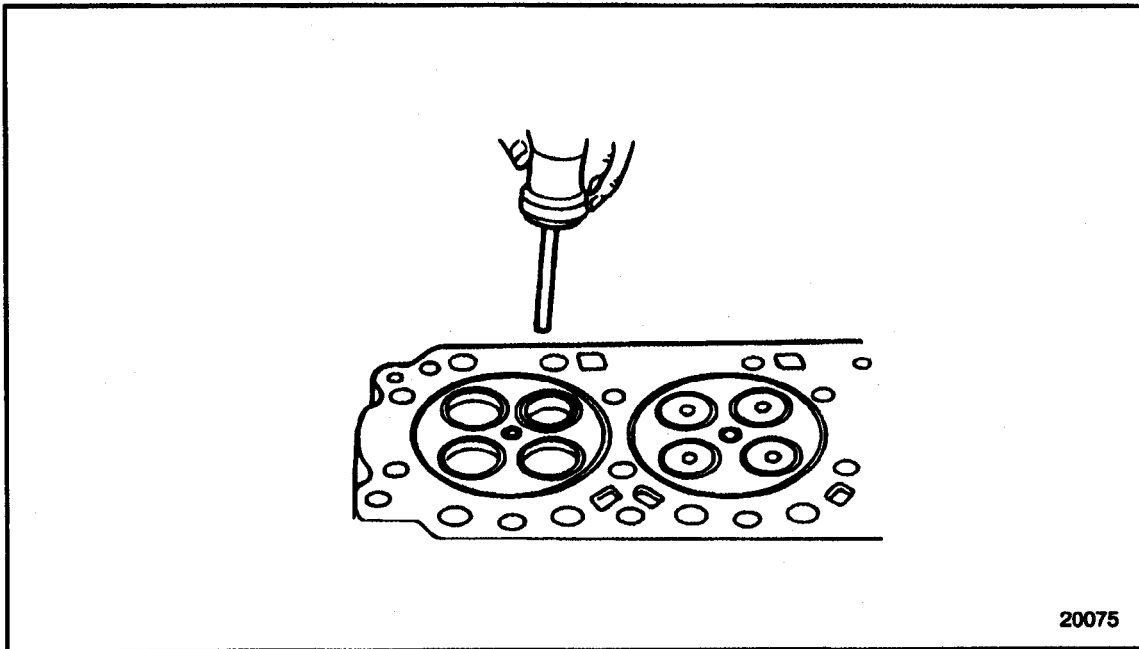

Figure 1-77 Valve Seat Insert Installation
4. Pilot the installer into the valve guide from the firedeck surface. See Figure 1-77.